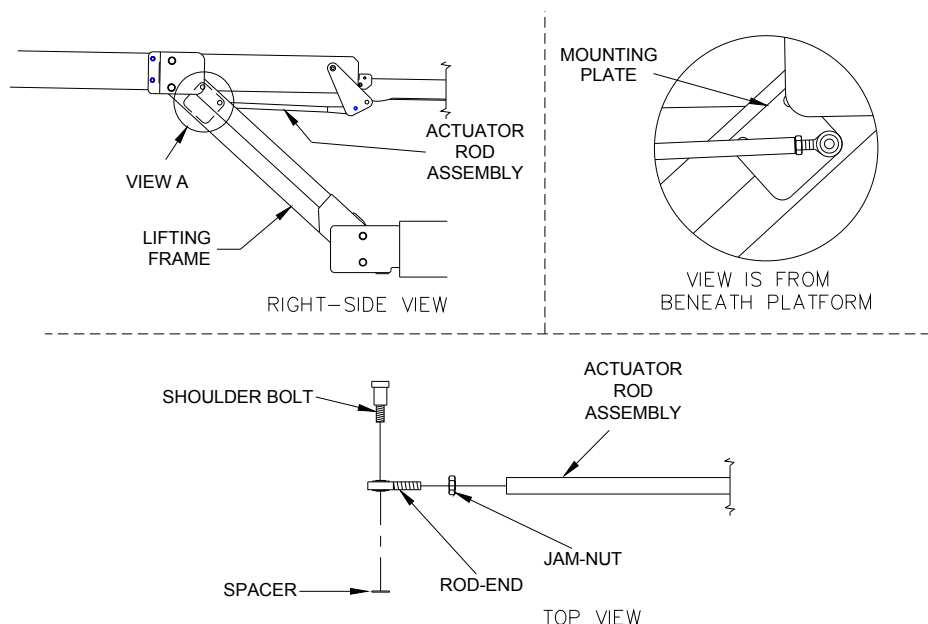

FIGURE 2-3: BRIDGEPLATE ACTUATOR ROD ASSEMBLY
- d. Refer to **Figure 2-3** on following page. Locate rod-end portion of actuator rod assembly at right side of platform (between junction of lifting frame and platform). Loosen rod-end jam-nut.